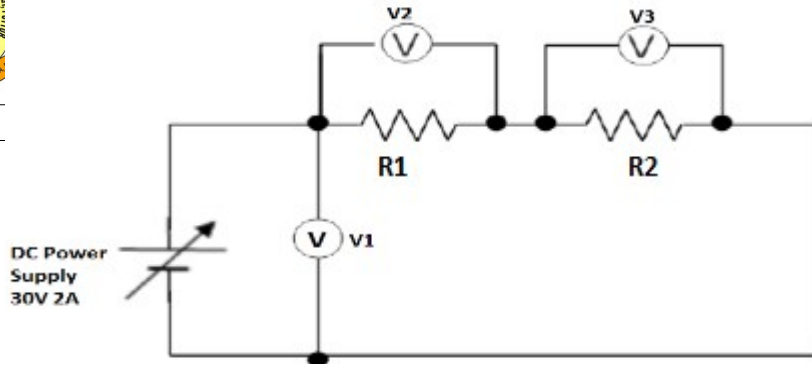

Fig 1.1
1. Connect the circuit as shown in the figure 1.1.